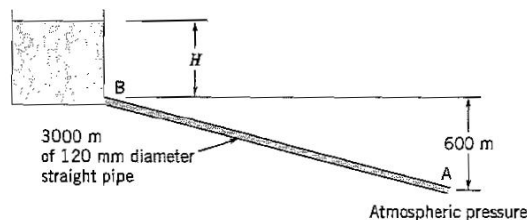

Figure P8.19
8.19 Figure P8.19 shows a pipeline through which water flows at a rate of $0.06 \text{ m}^3/\text{s}$. The pipe is 3000 m long, it has a diameter of 120 mm , and it is straight. If the friction factor for the pipe is 0.03 and the loss coefficient for the pipe entrance is 1.0, calculate H , the depth of the reservoir, given that the pipe exits to atmosphere.